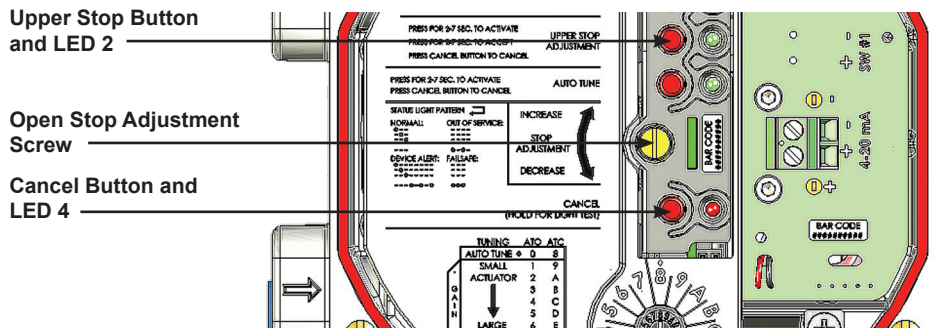

Figure 21 - Open Stop Adjustment Screw
2. Move the valve to the desired location via the Open Stop Adjustment Screw (Figure 21).